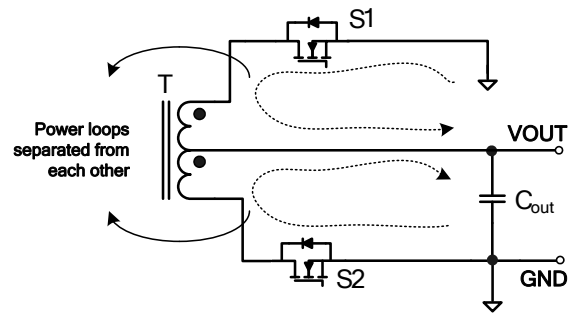

Figure 10: System Power Loop
1. Place a decoupling capacitor no smaller than  $1\mu\text{F}$  from  $V_{DD}$  to PGND close to the IC for adequate filtering (see Figure 10).
1. Keep the two channels' power loops separated from each other (see Figure 10).